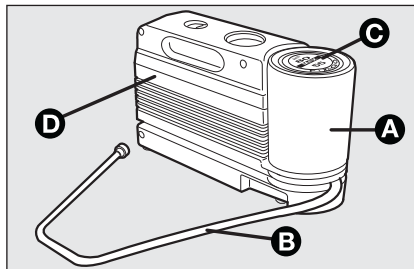

fig. 11
The kit **fig. 11** includes:
- ❑ a compressor **D-fig. 11** complete with pressure gauge and fittings, in the boot;